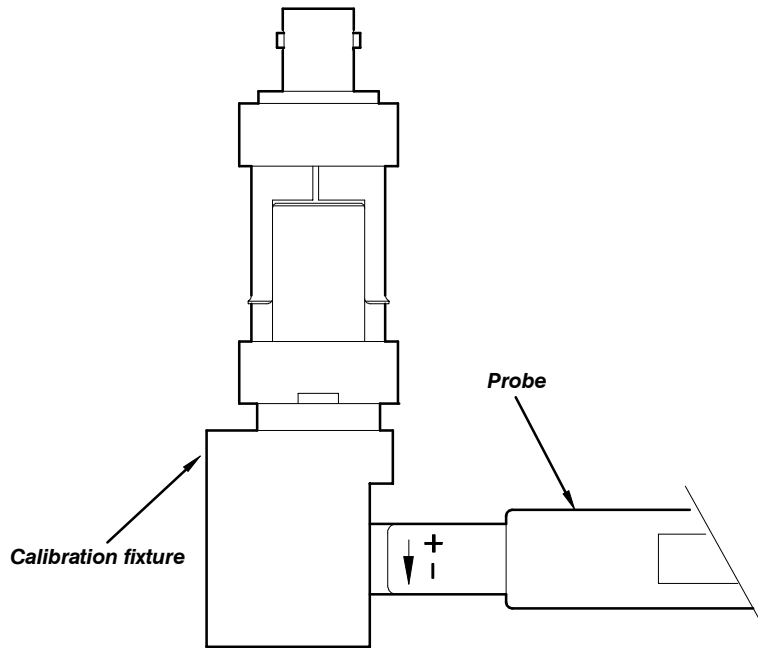

Figure 6: Connecting the Probe to the calibration fixture
- **Step 6:** Connect the probe to the current probe calibration fixture. Figure 6 shows the proper probe orientation to the current probe calibration fixture.